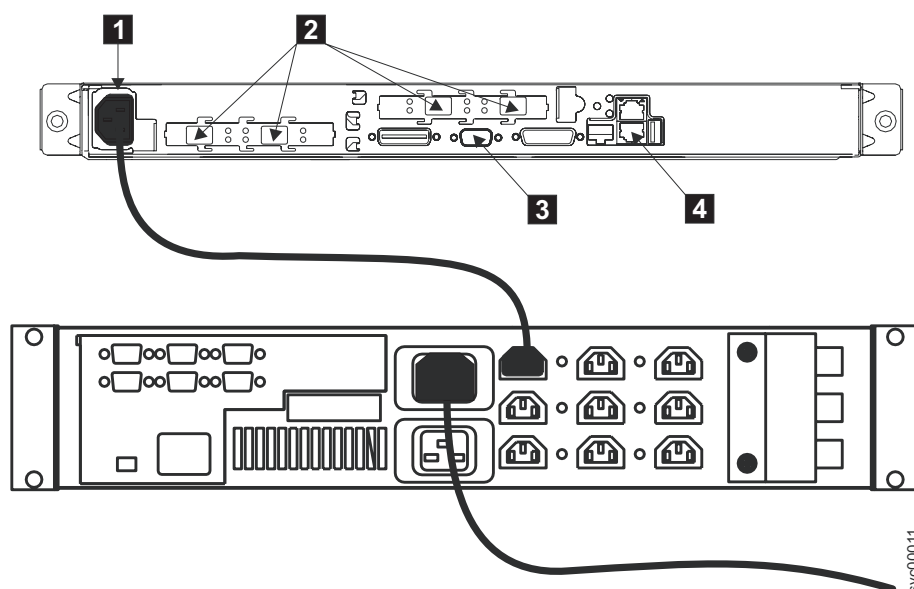

Figure 3. Power cable and signal sockets for the SAN Volume Controller and UPS 5125
2. Ensure that the power cable is plugged into the UPS 5125. Also ensure that the other end of the power cable is connected from the UPS 5125 to the distribution point in the rack. Figure 3 shows the connectors for the SAN Volume Controller and the UPS 5125. The power cable connector is shown as **1** in the figure.